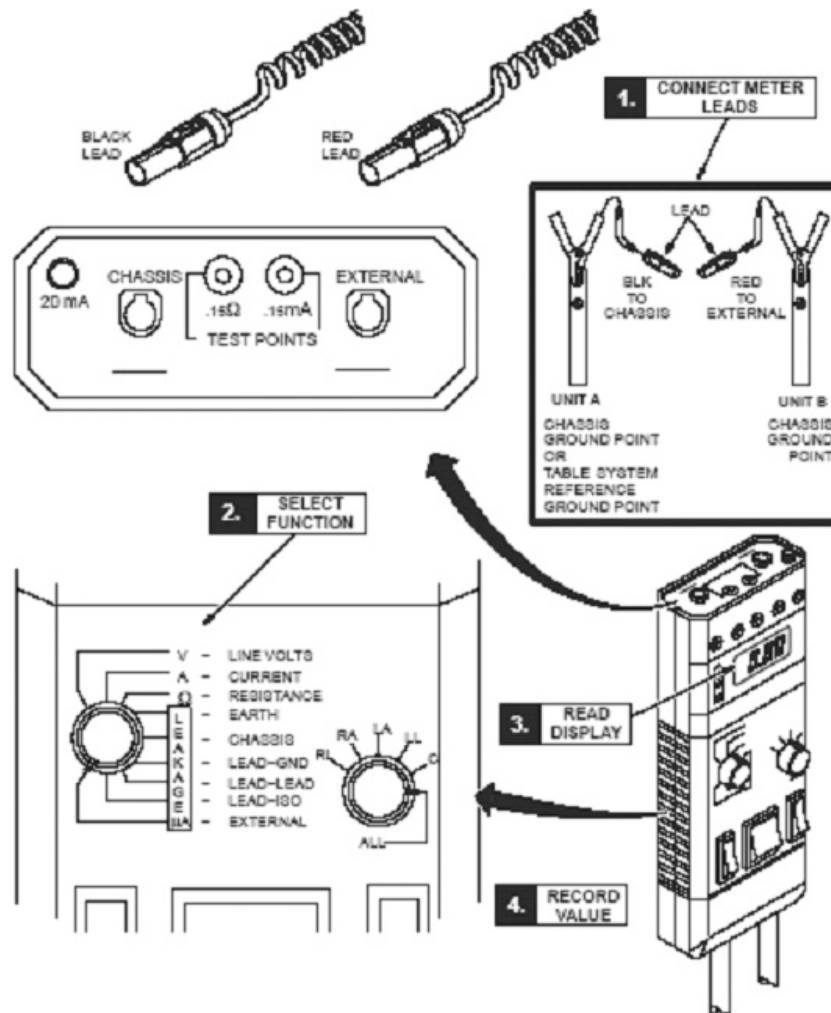

Figure 9-1 Using Dale 600 to Measure Leakage Current
- 3.) Refer to the Dale 601 Operator's Manual for instructions on the use of the Dale 600 meter for measuring leakage current (or refer to Figure 9-1, for a quick overview)